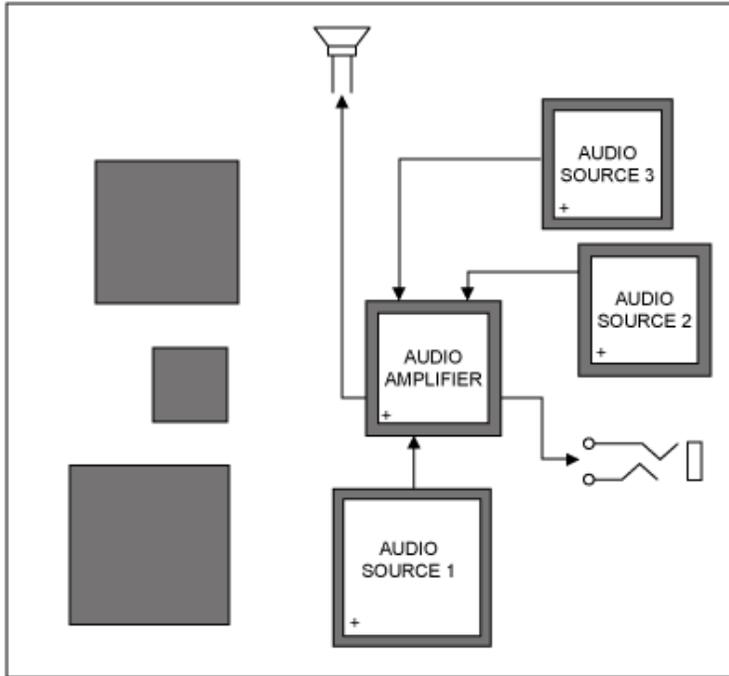

Figure 2. Example of good component placement in a cell phone.
**Figure 2** shows the same components as Figure 1, but rearranged to use the space more effectively and to minimize trace lengths. Notice how all the audio circuitry has been partitioned to be near the headphone jack and the speaker. The audio input and output traces are much shorter and the nonaudio circuitry has been moved to a different part of the PCB. This design will have lower overall system noise, be less susceptible to RF interference, and be easier to layout.